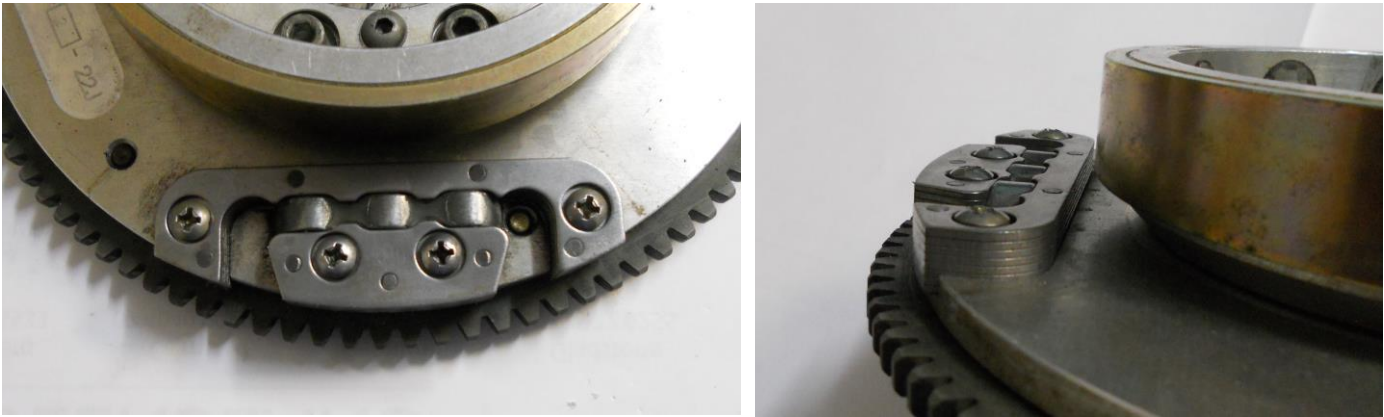

Figure 151 - Laminated Magnet retaining pole plates
- Laminated Pole Plates (shown Figure 151) are fitted with 5/8" 10-32 dome head screws